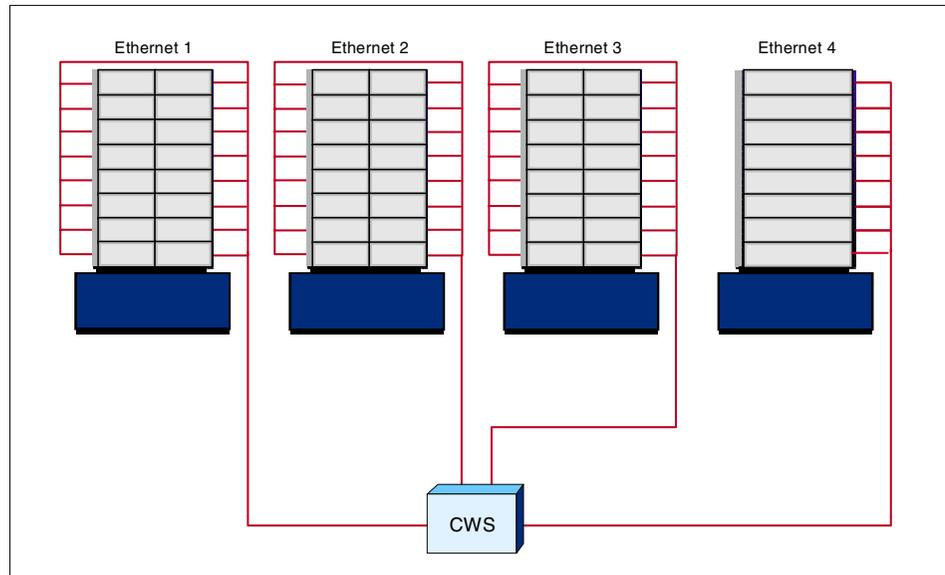

Figure B-7 Method 1 - Ethernet topology for multiple-frame SP system
1. The first method uses a control workstation with one Ethernet adapter for each frame of the system, and one associated SP Ethernet per frame. So, if you have a system with four frames as in Figure B-7 on page 400, the control workstation must have enough I/O slots for four Ethernet adapters, and each adapter connects one of the four SP frame Ethernet segments to the control workstation. Using this method, you install the first eight nodes on a frame at a time, or up to 32 nodes if you use all four Ethernet segments simultaneously. Running two installs will install up to 64 nodes. Figure B-7 shows an Ethernet topology for this multi-frame system.